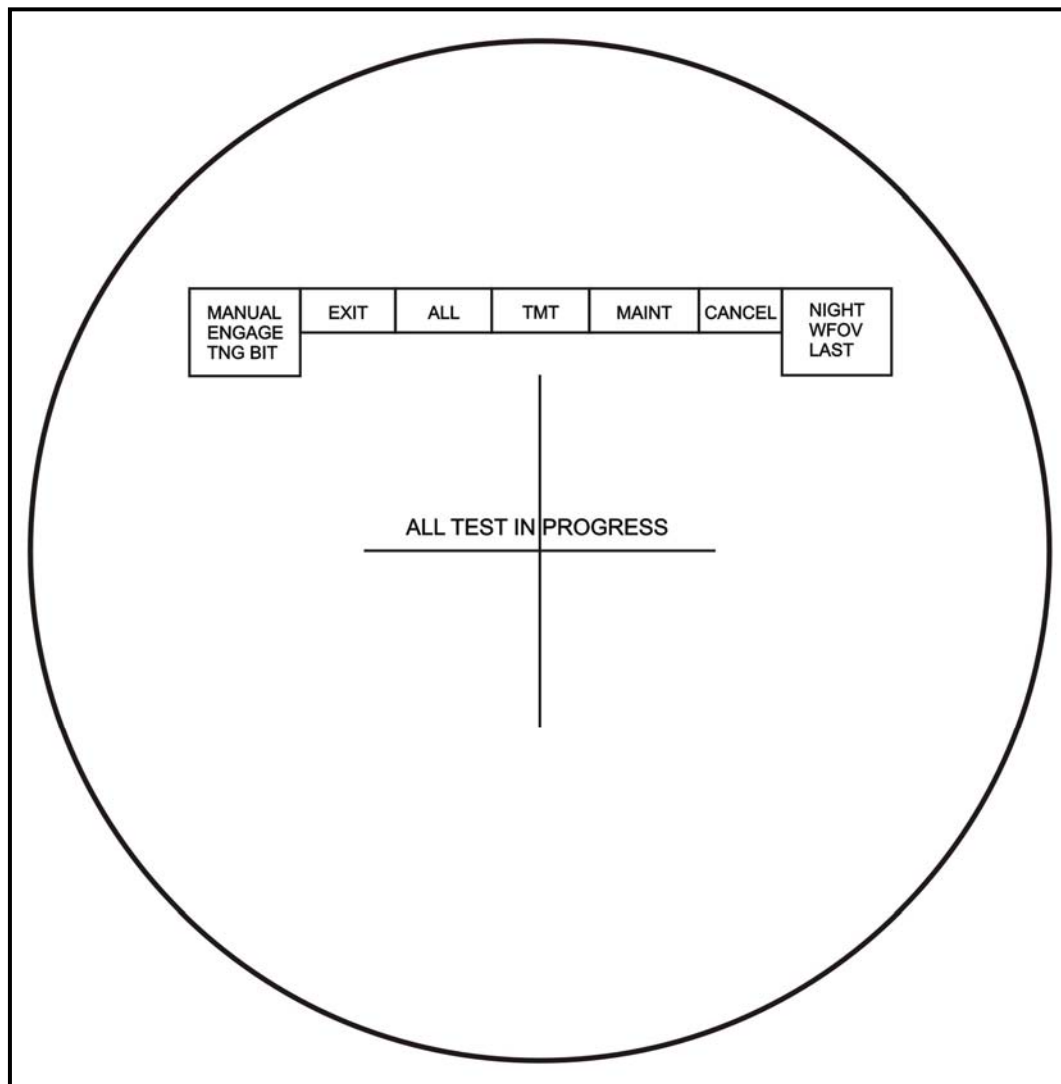

Figure 2-44. TAS display.
- ALL or TMT will initiate FTT BIT check, highlight the appropriate BIT menu box, and place TNG BIT in the mode box (Figure 2-44). If BIT passes, the menu transitions to the training menu and TNG BIT is removed from the mode box. If either BIT fails, the BIT menu is retained, the highlight is removed, and the cursor is positioned at the MAINT box